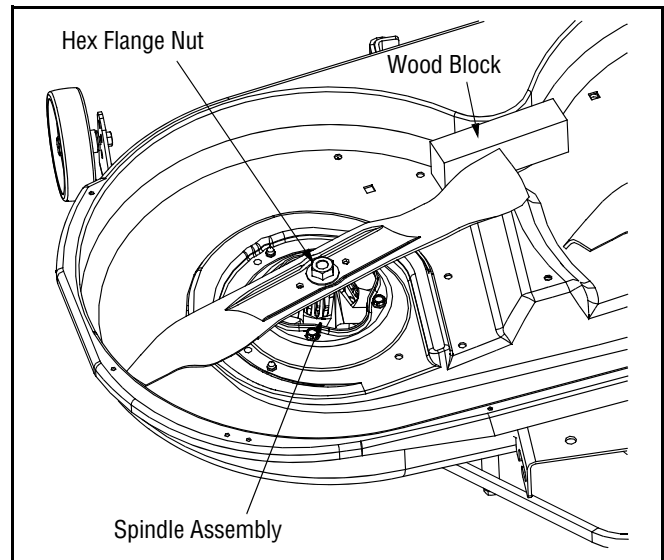

Figure 21
- Place a block of wood between the center deck housing baffle and the cutting blade to act as a stabilizer. See Figure 21.
- Remove the hex flange nut that secures the blade to the spindle assembly. See Figure 21.